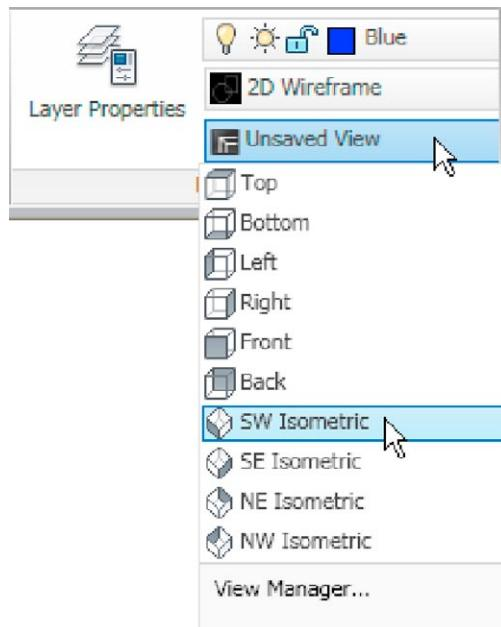

Fig. 12.6 Selecting **SW Isometric** from 3D Navigation drop-down menu in the **Layers & View** panel
3. Click **SW Isometric** in the **Layers & View** panel (Fig. 12.6).
1. In the above example we made use of an isometric view possible from the **3D Navigation** drop-down menu in the **Home/Layers & Views** panel (Fig. 12.6). The **3D Navigation** drop-down menu allows a model to be shown in a variety of views.